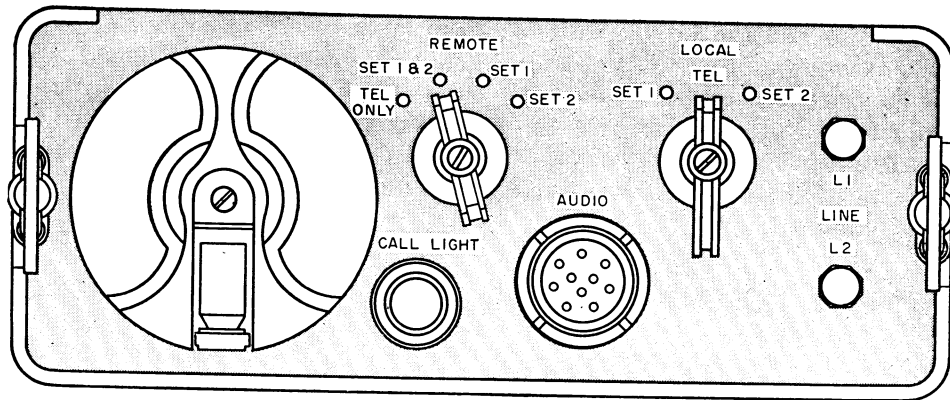

Figure 30. Local Control C-434/GRC, controls.
- (1) Put the radio set in operation as described in paragraph 17.
- (2) Hold the LOCAL switch (spring-return) on the local control unit (fig. 30) at the SET 1 position and talk into the microphone of the handset when transmitting; release this switch to the TEL position when receiving.